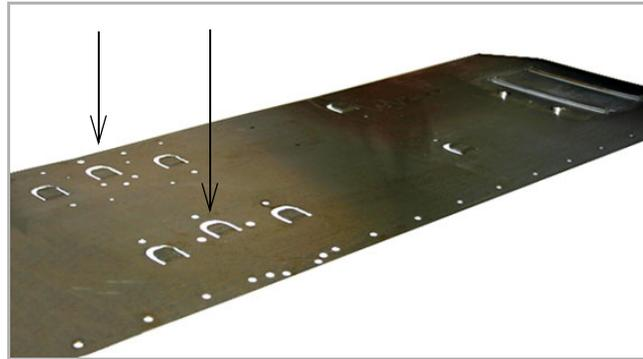

Figure 2-30 Flatten six center tabs on base section
1. In order for the Pro20 sensor (or fairing/spacer) to be mounted flush against the bottom of the scissors ring, and to avoid accumulation of debris, the six tabs in the center of the base section must be flattened. This can be accomplished by hammering and bending the tabs (Figure 2-30).